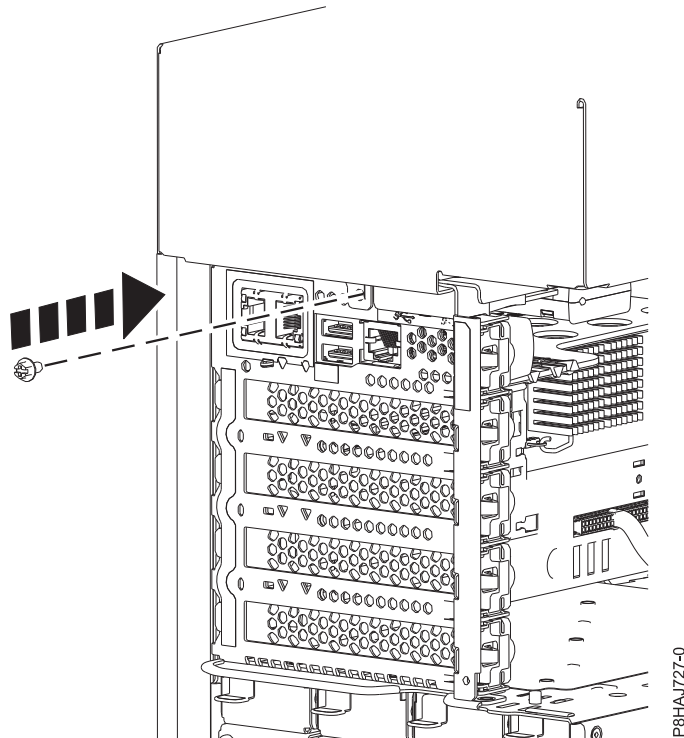

Figure 143. Installing the 8286-41A side cover screw
- 5. Install the side cover rear screw with a Phillips screwdriver as shown in Figure 143 on page 159.